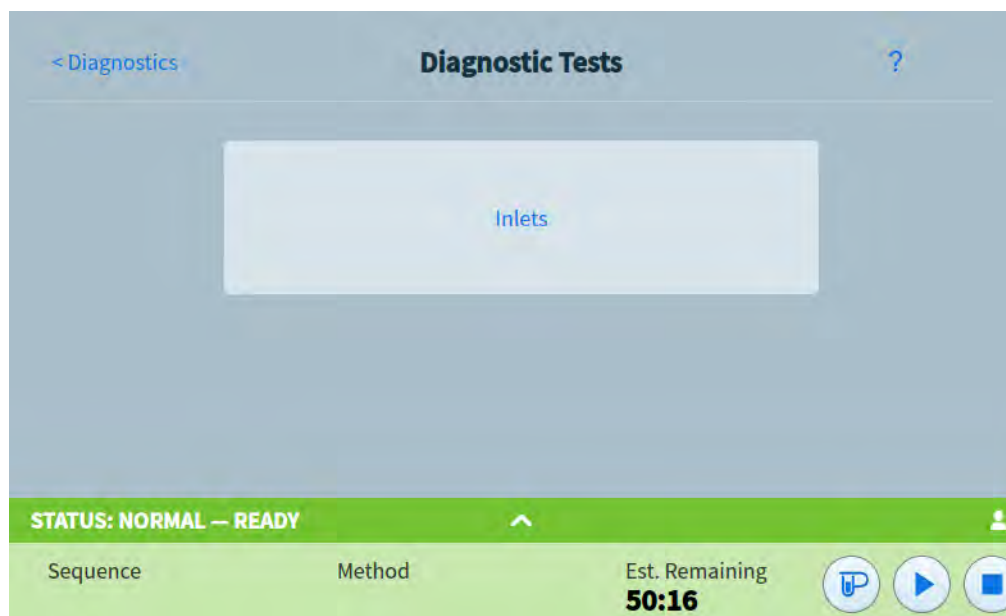

Figure 28. Diagnostic Tests page
- 2 Select **Diagnostic Tests**. The Diagnostic Tests page appears. See **Figure 28**.